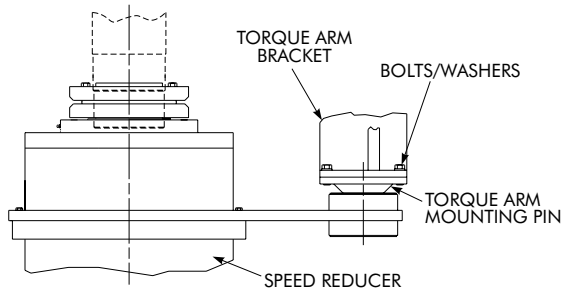

Figure 2.2c Mounting of Torque Arm Pins to Torque Arm
4. Tighten the bolts with washers, shimming if necessary. Reference Table 2 (Page 21) for recommended bolt torques. Reference Figure 2.2c